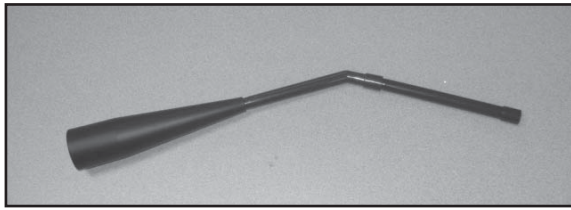

Figure 25.1
- c. Assemble the crevice tool from the micro cleaning kit to attach to a Shop Vac. **Figure 25.1.**